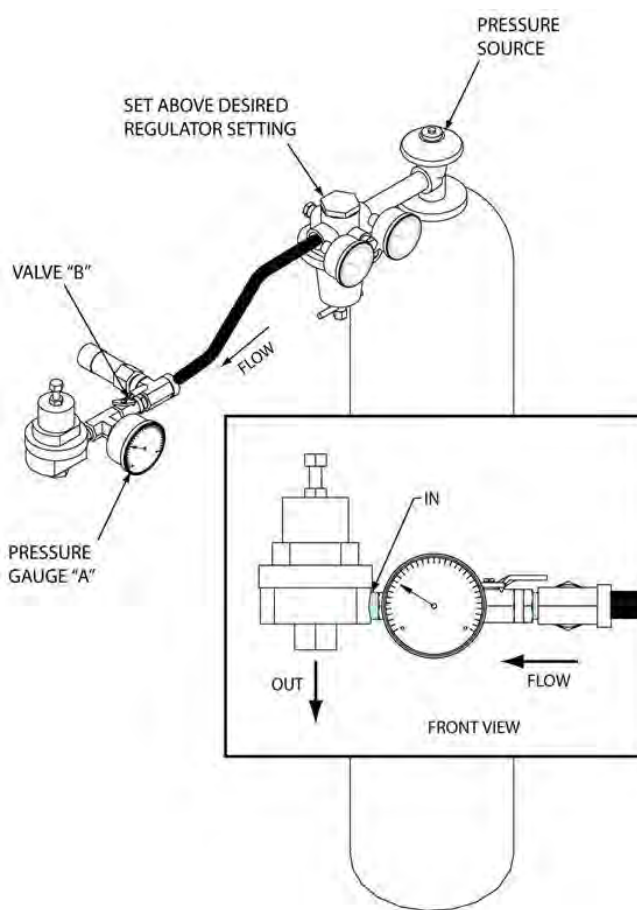

Figure 22
1. Connect the inlet of the economizer regulator to a pressure source as shown in Figure 22.